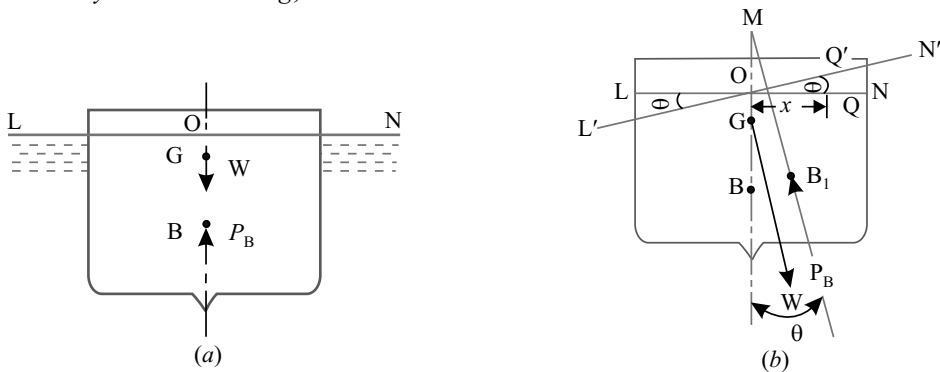

Fig. 4.8
Fig. 4.8 (a) shows body floating in a liquid in a state of equilibrium. When it is given a small angular displacement [see Fig. 4.8 (b)] it starts oscillating about some point (M). This point, about which the body starts oscillating, is called **metacentre**.
The distance between the centre of gravity of a floating body and the metacentre (i.e. distance GM as shown in Fig. 4.8 (b)) is called **metacentric height**.
Refer to Fig. 4.8 (b). It shows the tilted position of the floating body, the line $L'ON'$ represents the water surface. The portion $N'ON$ of the body is submerged and the portion $L'OL$ is lifted because of tilting. As a result of this, the centre of buoyancy changes its position from B to B_1 . The intersection of axis of the body and the vertical line through B_1 locates the metacentre, M of the body.